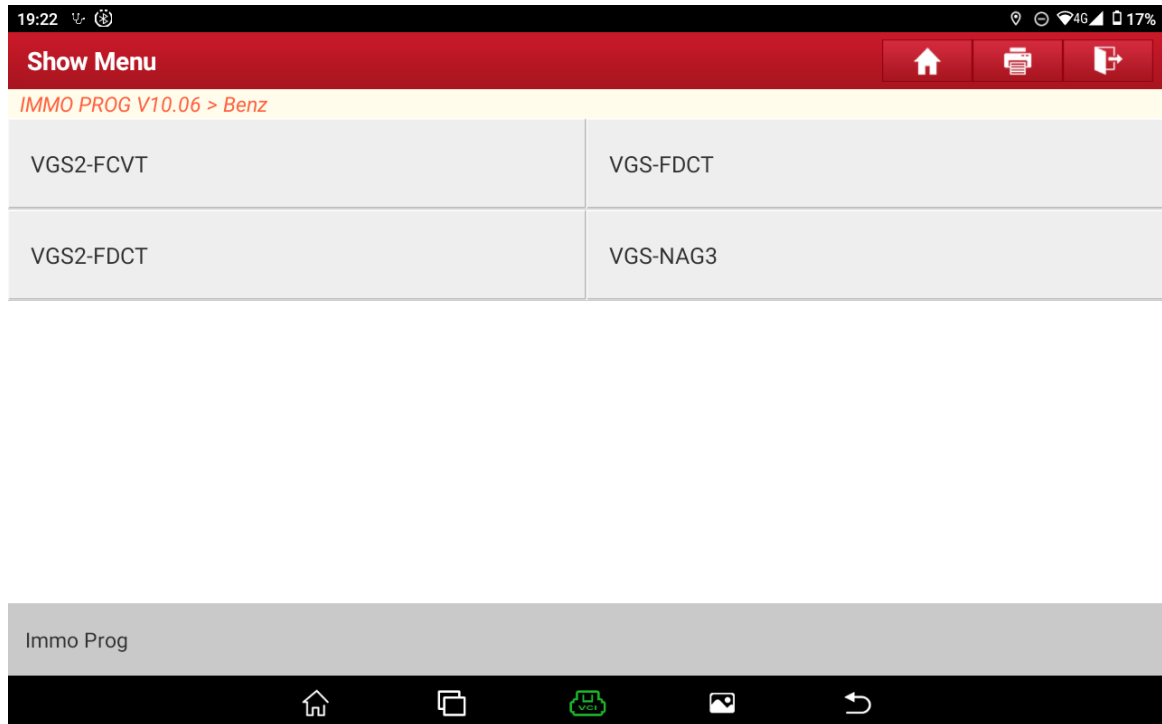

Figure 2
1. Choose [Gearbox] > [Benz] > [VGS-NAG3], as shown in Figure 2.